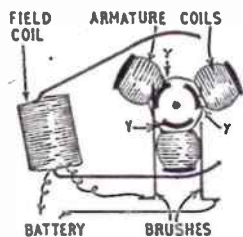

Fig. 3—Connecting diagram
When finished, the commutator is turned so that its segments are opposite the armature coils, as shown in Fig. 3. The three loops formed between the armature windings are now soldered to the segments, at (Y), as shown. Each